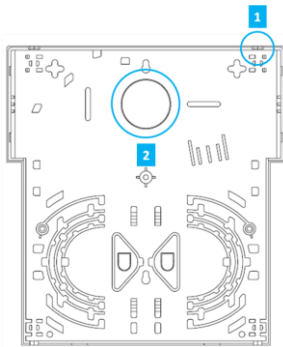
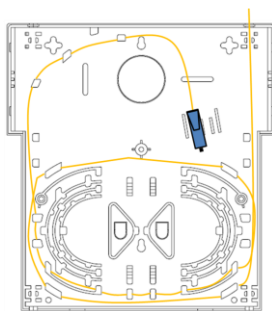

Figure 9. Fiber cable input holes
Figure 11. Fiber cable installation
Step 3. Organize the fiber cable into the cable tray base. There are two fiber cable input holes that you can use to organize your cable (Figure 9 & 10). Use the cable tray fixations to fix your fiber cable securely on the cable tray while organizing. See Figure 11 & 12 for an example.